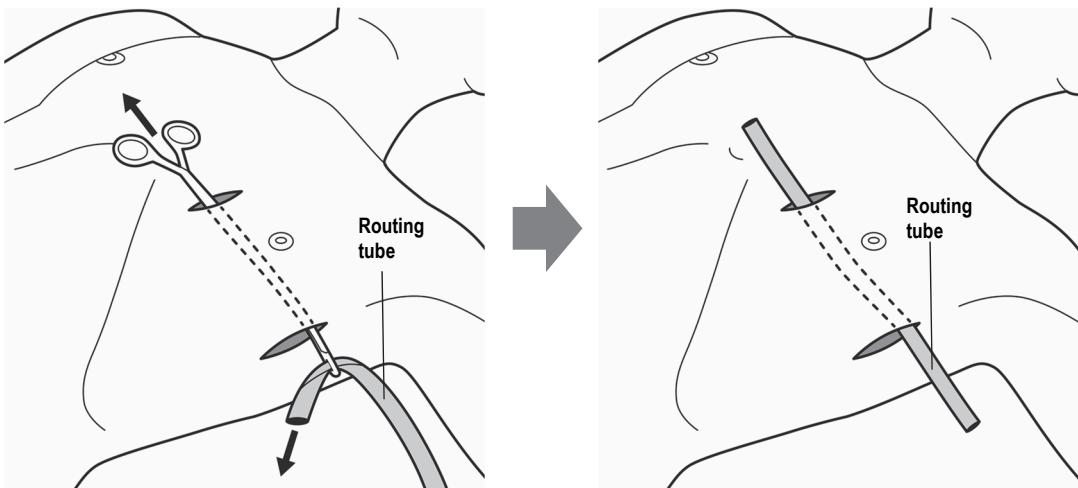

Figure 25: Place Routing Tube for use in Transmitter implant
13. The Routing Tube is used as a conduit for routing of the cable. Loop the tube through the distal tip of the tunneling tool. Pull the tunneling tool back through the tunnel, leaving the tube in place traversing between the Battery pocket and Transmitter incision. See Figure 25.